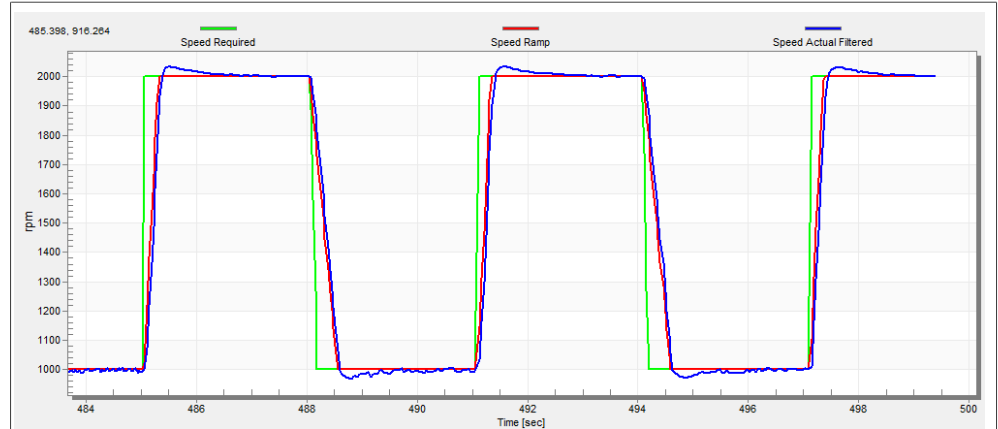

Figure 29. Speed controller response—speed loop response with a small overshoot
- The speed loop response has a small overshoot and the “Speed Actual Filtered” settling time is sufficient. Such response can be considered optimal (see Figure 29).